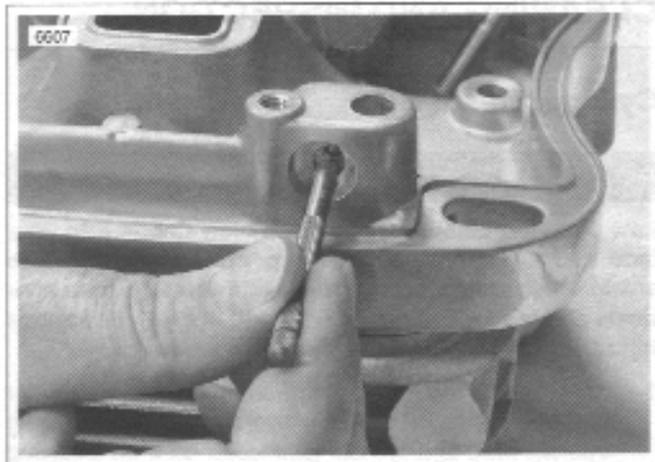

Figure 3-71. Measuring Rocker Arm Shaft Bore Diameter in Lower Rocker Cover
- a. See Figure 3-71. Measure bore of lower rocker cover.